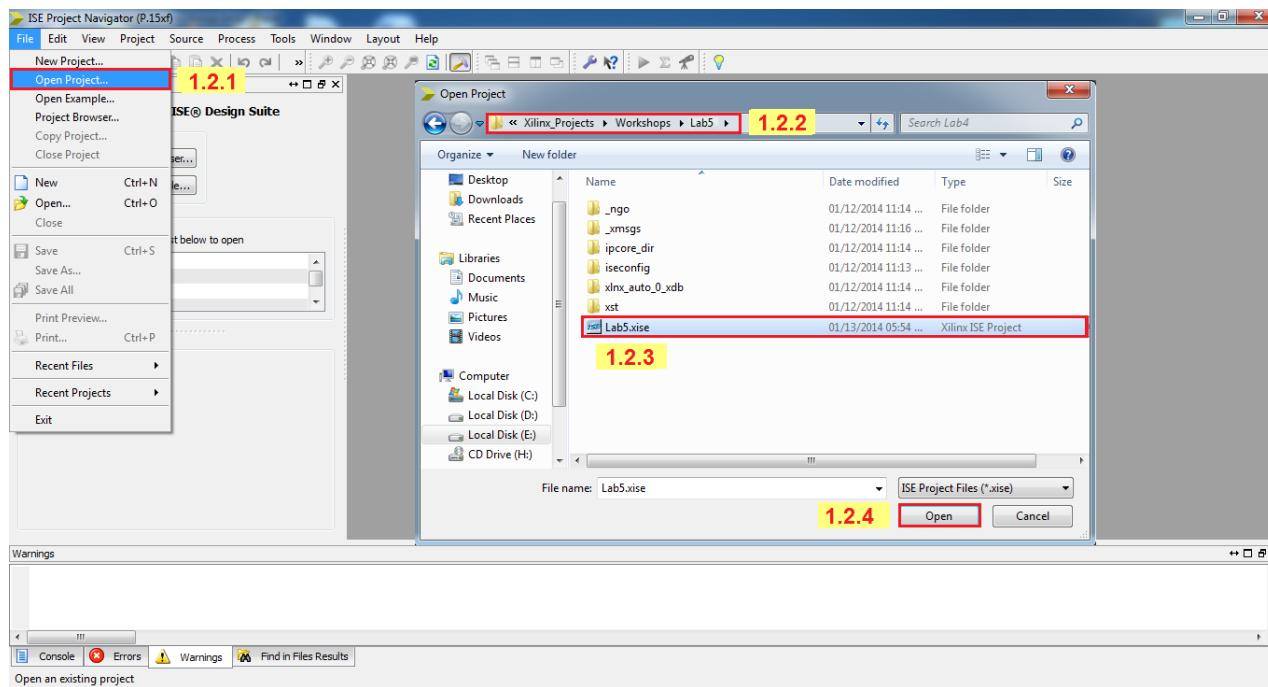

Figure 3.
1.2. Open the project (Figure 3)